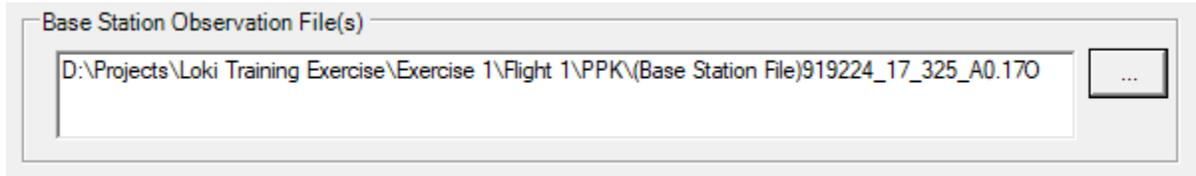

Figure 29 – Base Observation File
- Click the Base Station tab. Import the base observation file (in Rinex format) into the Base Station Observation field. (Figure 29)